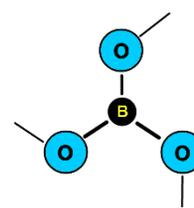

Figure 9
- Trigonal borate – one of the atomic arrangements that borate molecules will adhere to. Composed of one boron and three oxygens in a triangular arrangement. (Figure 9)